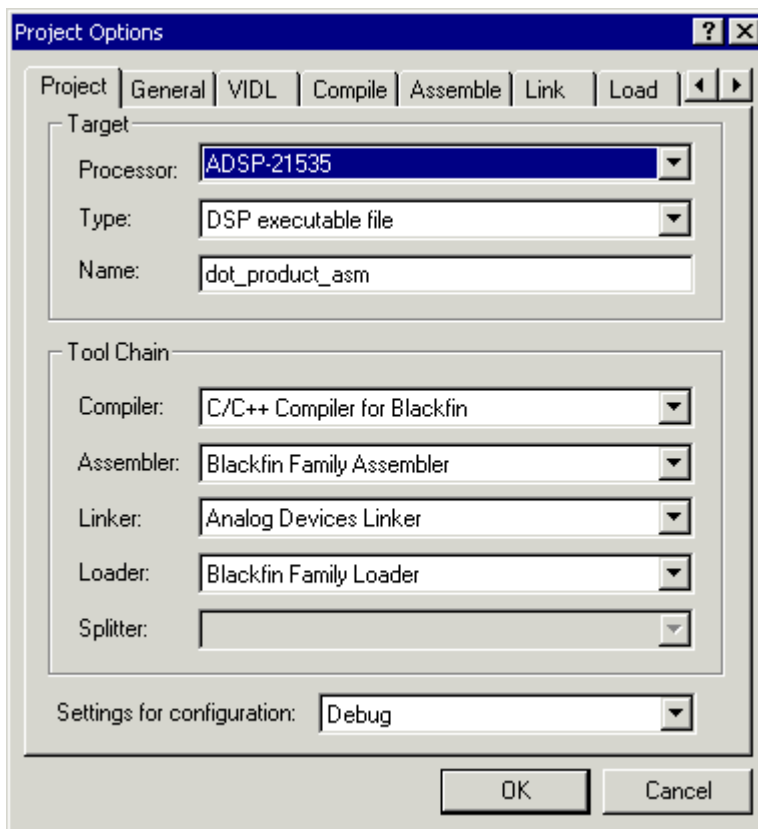

Figure 2-11. Project Options Dialog Box: Project Page
The **Project Options** dialog box (Figure 2-11) appears.
6. On the **Project** page (Figure 2-11), specify the following values.